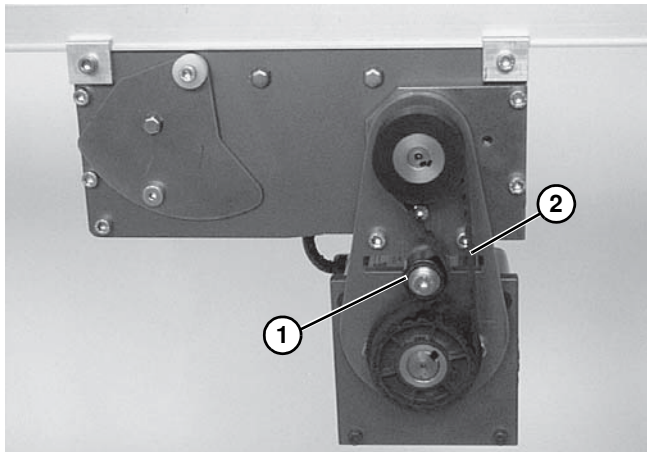

Figure 35
2. Loosen belt tensioner (**Figure 35, item 1**) then remove timing belt (**Figure 35, item 2**).